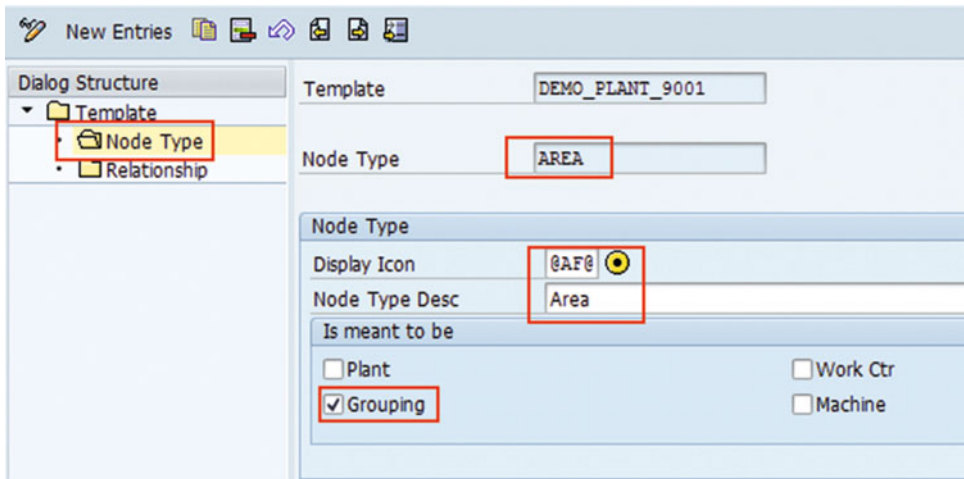

Figure 3-36. Configure plant hierarchy template: area (Level 1)
- Node Type: AREA (refer to Figure 3-36)